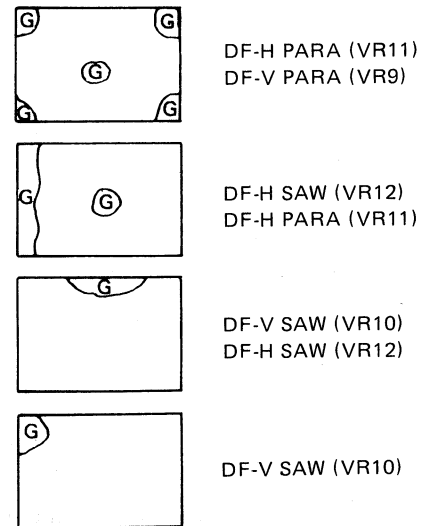

Fig. 4-2-26
- Adjust DF-V PARA VR9, DF-V SAW VR10, DF-H PARA VR11 and DF-H SAW VR12 to minimize green in the corners and edges of the picture. (Fig. 4-2-26)